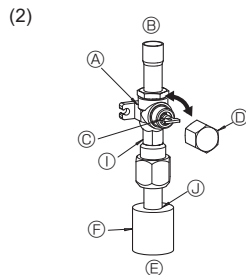

Fig. 4-7
- ① Remove the cap and turn the valve rod counterclockwise as far as it will go with the use of a 4 mm hexagonal wrench. Stop turning when it hits the stopper. (Approximately 10 revolutions)
- ② Make sure that the stop valve is open completely and rotate the cap back to its original position.
(2) Gas side of stop valve (Fig. 4-7)
- ① Remove the cap, pull the handle toward you and rotate 1/4 turn in a counterclockwise direction to open.